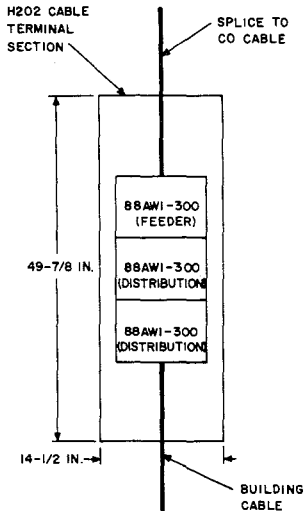

Fig. 14—300-Pair Entrance Cable (Nonprotected)—600-Pair Building Cable
3.12 At installations where 134-type protector(s) are not required, the 88-type hardware is installed as outlined in paragraphs 3.01 through 3.11 with the 134-type protector omitted. (See Fig. 14 through 17.)